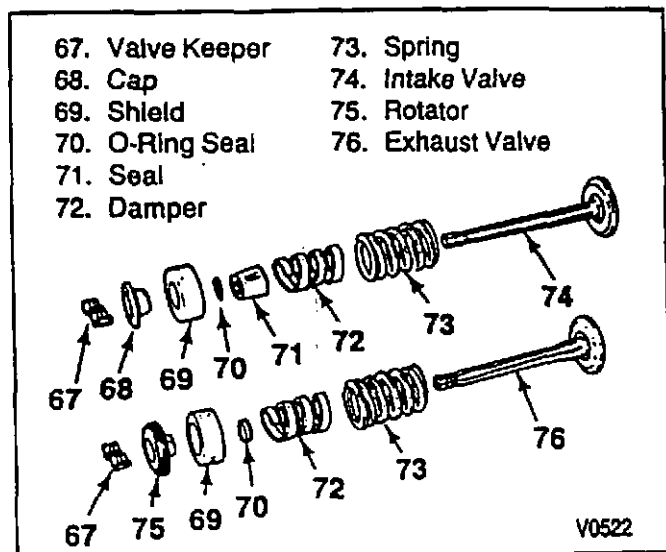
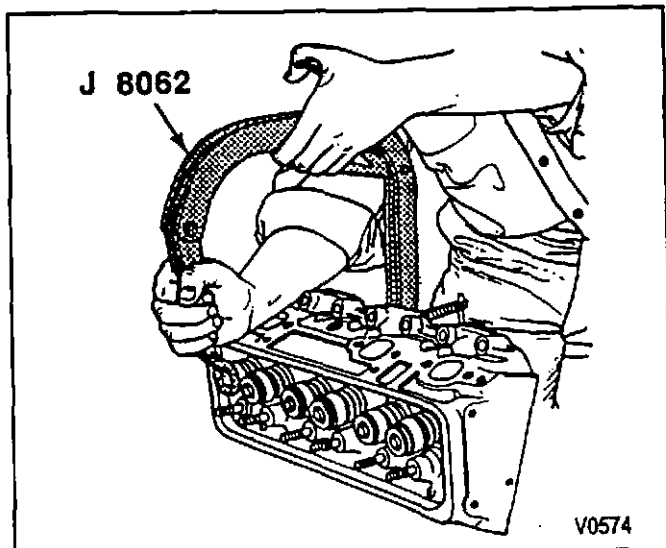

Figure 27—Valves and Components
Figure 28—Compressing the Valve Springs
Disassemble (Figures 27 and 28)
1. Valve keepers (67).
- A. Compress the springs with J 8062 (figure 28).
- B. Remove the keepers (67).
2. Intake valve components (figure 27).
- A. Cap (68).
- B. Shield (69).
- C. Seal (71).
- D. Damper (72).
- E. Spring (73).
3. Exhaust valve components (figure 27).
- A. Rotator (75).
4. O-ring seals (70).
- Seal (71) (intake valves only).
- Install the seal (71) over the valve stem.
- Hold the valve (74) against the valve seat.
- Push the seal (71) down the valve stem until it bottoms out against the head.
- Springs (73) and dampers (72).
- Shields (69).
- Cap (68) or rotator (75).
- Compress the valve spring using J 8062 (figure 28), enough so the lower valve stem groove can be seen clearly.
- O-ring seal (70) onto the valve stem's lower groove, making sure the seal (70) is flat and not twisted.